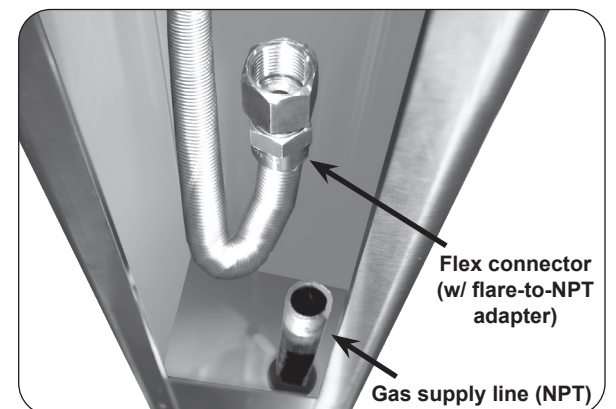

Fig. 29-3 Post interior detail
2. Verify that the gas supply line fits through the gas line clearance hole in the bottom of the post (see Fig. 29-3). The clearance hole is the larger of the two holes in the bottom of the post and is off center.